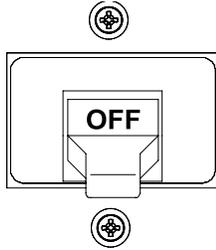

Figure 23. Main Circuit Breaker (OFF)
2. Once the correct voltage (240 VAC) has been verified, place the main circuit breaker (Figure 23) on the **OFF** position.